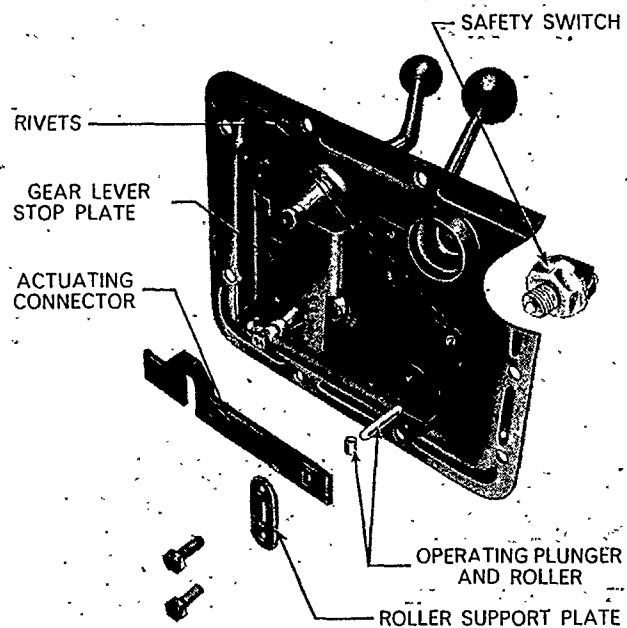

Figure 3
Remove the two self-locking bolts retaining the roller support plate to the switch retainer. Remove the plate, the actuating connector, the roller and the plunger from their locations, Figure 3.
NOTE: No attempt should be made to remove the main shift lever stop plate or the switch retainer, Figure 3, which are riveted onto the
2. Screw the safety switch into the switch retainer. Position the safety switch actuating connector and install the plunger, operating roller and roller retaining plate, Figure 3. Screw in the two self-locking retaining bolts.